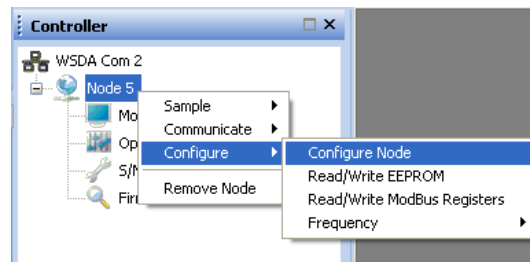

Figure 4. Select Configure Node
2. Select “Configure” and “Configure Node.” See Figure 4.